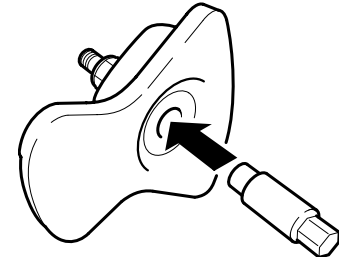

Fig. 4
For Coupling mechanism and front/rear friction pads. (Fig. 4)
- Insert the locking bolt socket key. (Fig. 4)